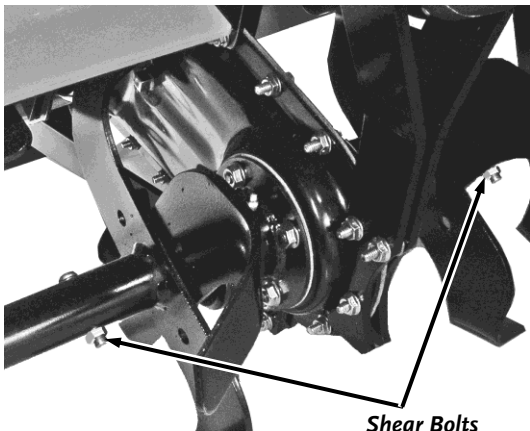

Figure 25
- The DR ROTO-HOG Power Tiller drive components are protected from damage by Shear Bolts in the Tine Assemblies (**Figure 25**). The Shear Bolts hold the Tine Assemblies in proper location on the Drive Axles. Should a Tine Assembly strike or pick up a large hidden object and jam, the Shear Bolt holding the Tine Assembly to the drive shaft will shear or break, protecting the drive components of the DR ROTO-HOG Power Tiller from major damage.